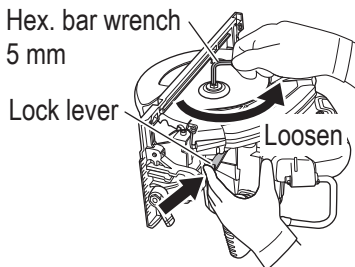

Fig. 13
- (1) Depress the lock lever, lock the spindle, and remove the hexagonal flange bolt and washer (B) with the hex. bar wrench 5 mm. (Fig. 13)